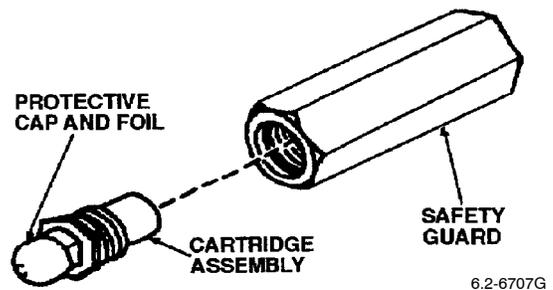

Figure 29. Remove Safety Guard
- (1) Remove safety guard from cartridge. Leave protective cap and foil in place (Figure 29).